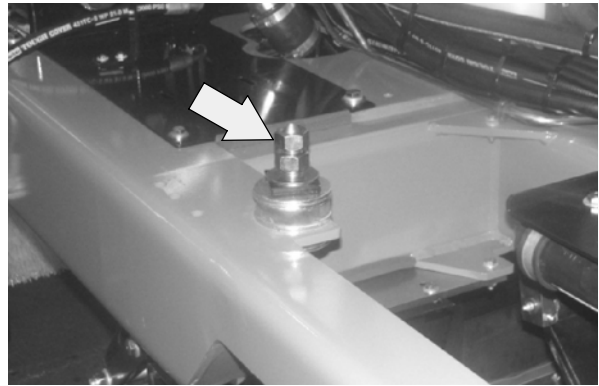

FIG. 20
33. Remove the M20 hex nuts and washers holding the cab down to the machine. Set the hex nuts and washers aside. Refer to Fig. 20.